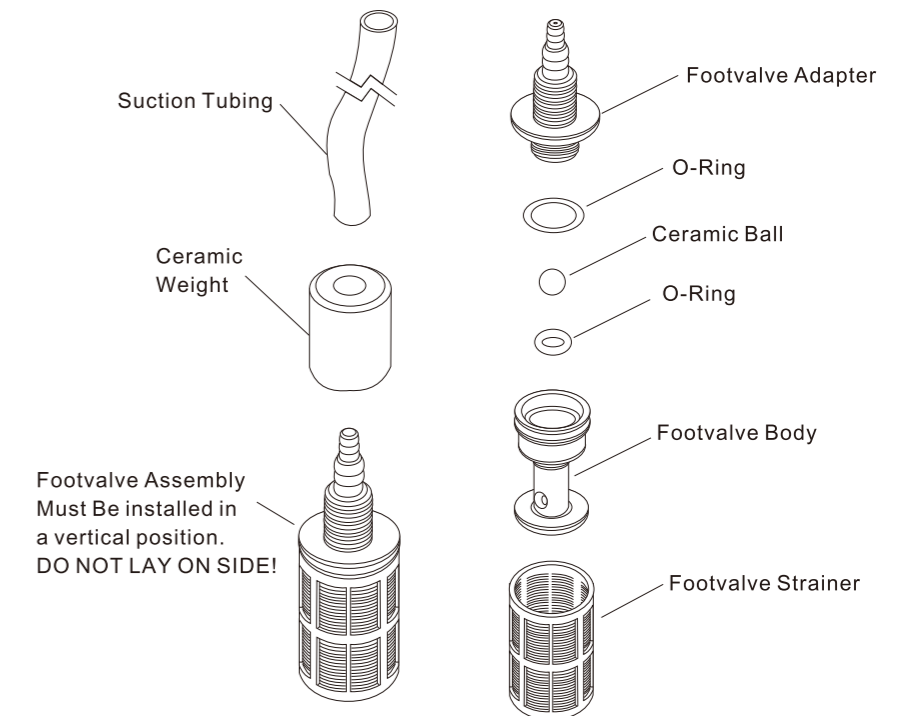

FIG.4.2 FOOTVALVE ASSY.
- ✓ Periodically clean the suction strainer. FIG.4.2.